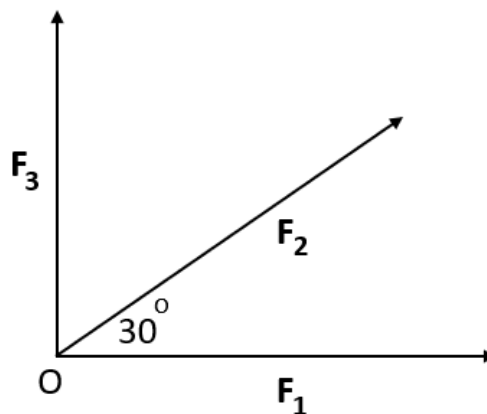

Figure Q3b: Block O subject to forces.
- b) **Figure Q3b** shows a block at point O is subject to three forces. The first force $F_1 = 10\text{ kN}$, acts horizontally to the right, the second force $F_2 = 7\text{ kN}$, acts at an angle of 30° above the horizontal, and the third force $F_3 = 8\text{ kN}$, acts vertically upward. Find the resultant force R acting on the block in terms of its magnitude and direction.